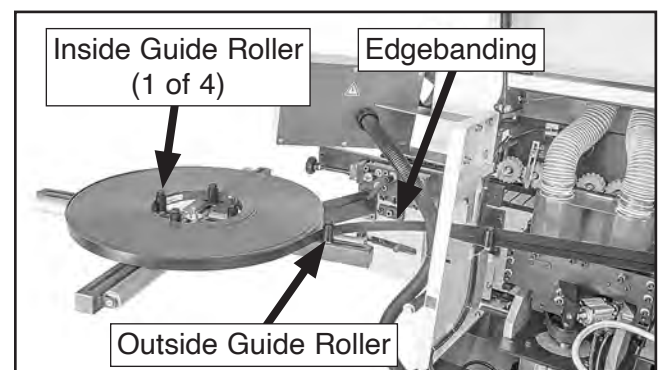

Figure 52. Location of edgebanding roll guide rollers.
2. If necessary, loosen guide rollers on coil support (see **Figure 52**) and move them to allow room for edgebanding coil.
3. Center edgebanding coil on coil support, move (4) inside guide rollers so they just touch coil, then tighten to secure (see **Figure 52**), ensuring edgebanding coil can rotate freely.
4. Rotate coil support so outside guide roller directs edgebanding along a relatively straight path into feed guide as it is pulled from coil (see **Figure 52**).